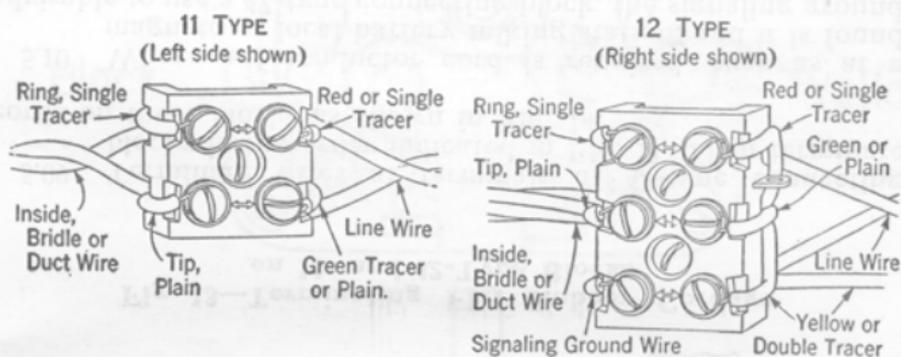

Fig. 12—Wiring of 11- and 12-Type Connecting Blocks
5.07 Dress wires on 11- and 12-type connecting blocks and terminate individual conductors as shown in Fig. 12.